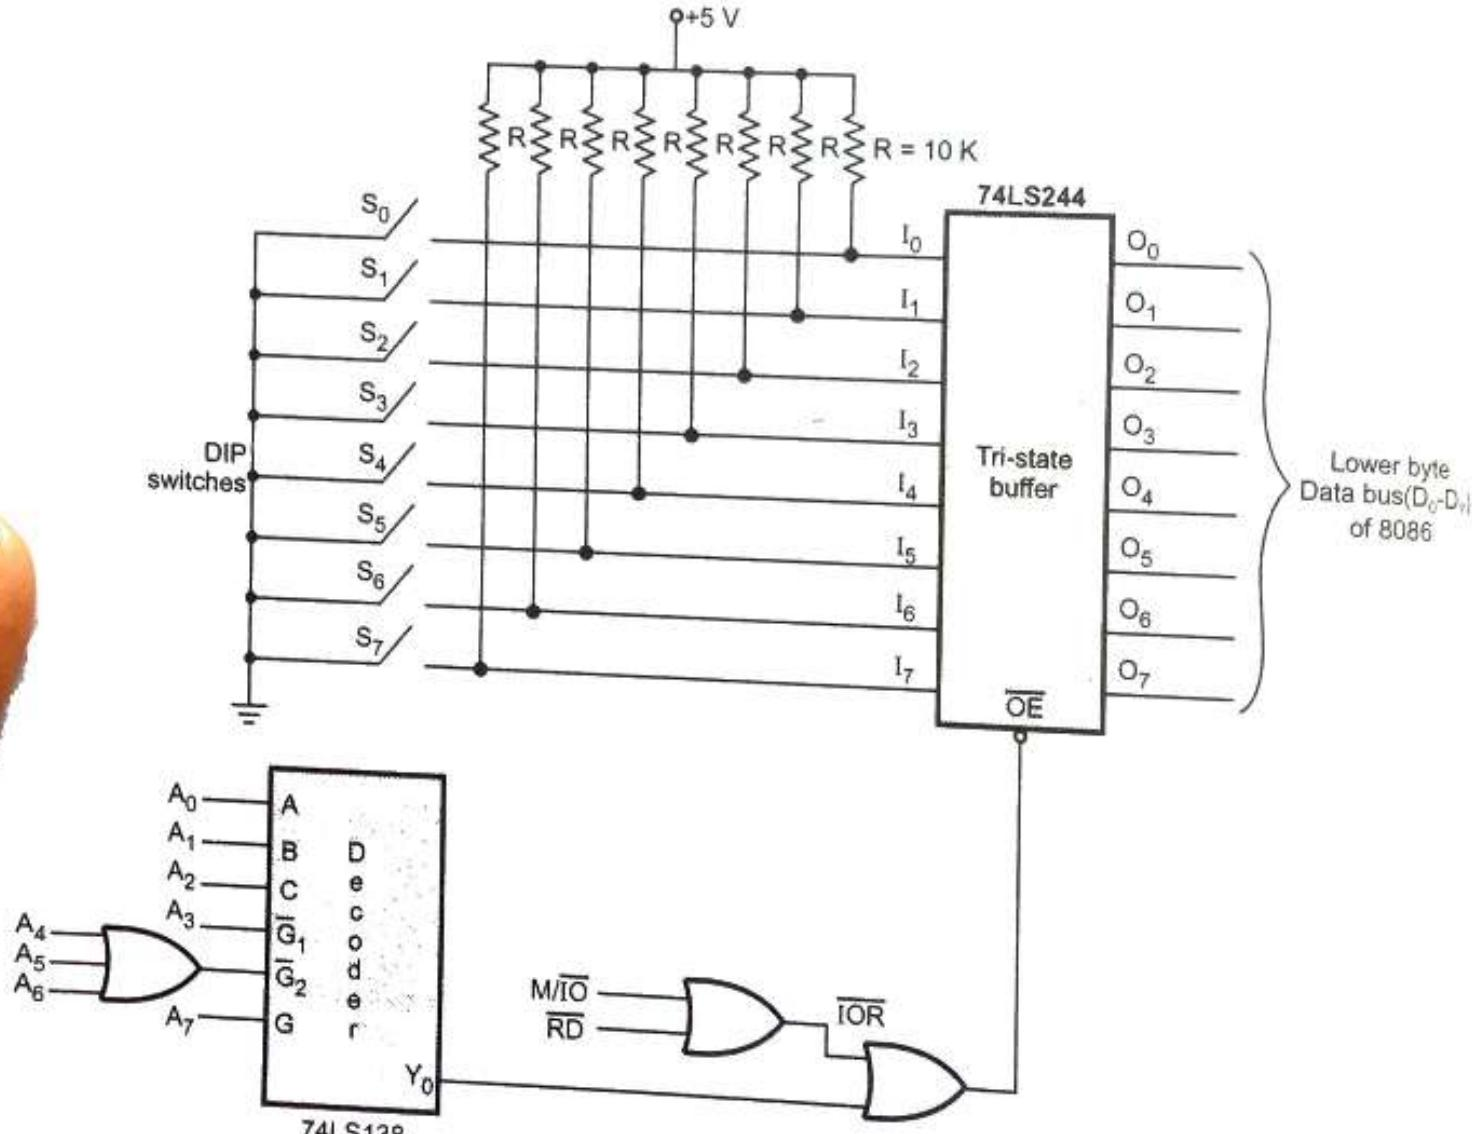

Fig. 3.1.2 Circuit diagram to interface 8-bit input port
- The microprocessor 8086 accepts 8-bit or 16-bit data from the input port. Let us see interfacing of 8-bit input port. Fig. 3.1.2 shows the circuit diagram to interface input port (buffer) which is used to read the status of 8 switches. The address for this input device is 80H as device select signal goes low when address is 80H.